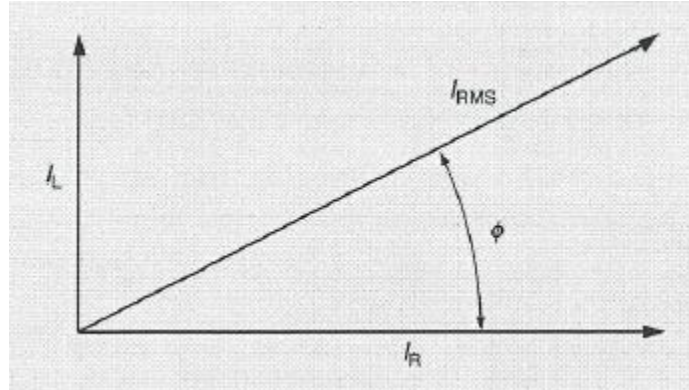

Figure 6.5: Vectors for current in an Inductor
6-35 You can divide the RMS current in the circuit into two components, as shown in Figure 6.5. One component is the current in the resistor. The other is the current in the inductor. In a vector diagram, the two currents act at an angle of  $90^\circ$  to each other.
- 6-36 The current in the inductor is not important in calculating power, because an inductor consumes no power. All the power consumed in the circuit is consumed by the resistor. Therefore, the current to use in calculating effective power is the resistive component of the RMS current. In Figure 6.5, the resistive component is the horizontal vector,  $I_R$ .